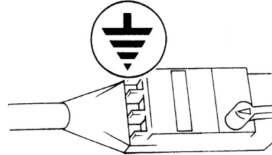

fig. 2.2
5. It is the customer's duty to check that the mains electricity network where the cabinet is installed is equipped with a suitable earth connection, sufficient for the absorbed power failing which the customer must adapt its own system (fig. 2.2).